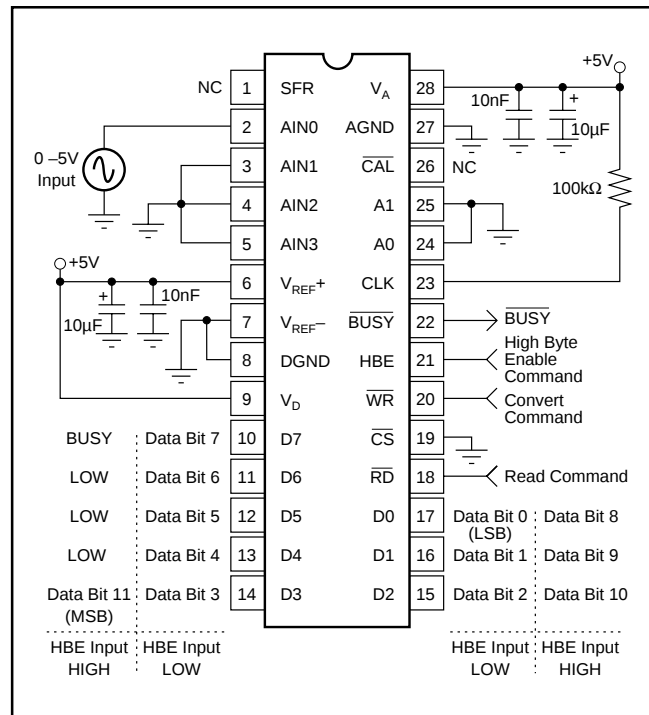

FIGURE 1. Basic Operation.
Figure 1 shows the simple circuit required to operate ADS7832 in the Transparent Mode, converting a single input channel. A convert command on pin 20 ($\overline{WR}$) starts a conversion. Pin 22 (BUSY) will output a LOW during the conversion process (including sample acquisition and conversion), and rises only after the conversion is completed. The two bytes of output data can then be read using pin 18 (RD) and pin 21 (HBE).